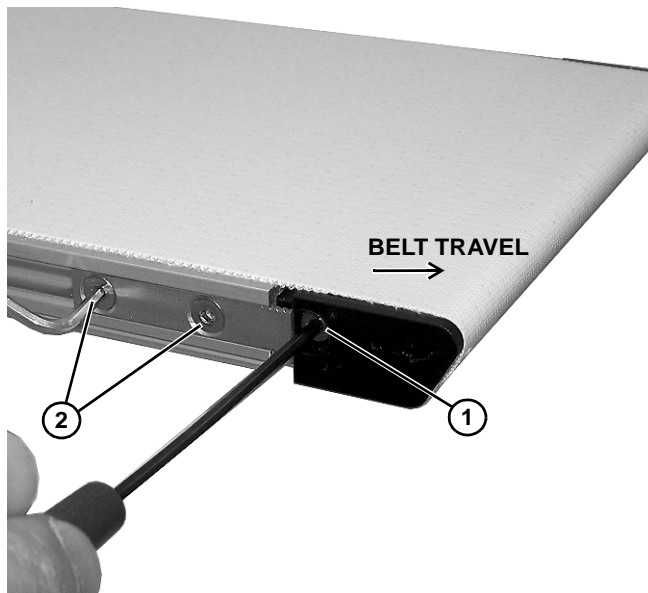

Figure 28
Non V-guided belt conveyors are equipped with a belt tracking cam (Figure 28, item 1) for belt tracking adjustment.
1. With conveyor running, insert 2.5 mm hex wrench into tracking cam (Figure 28, item 1) on the side toward which the belt is tracking.
2. Loosen head plate fastening screws (Figure 28, item 2).
3. Rotate tracking cam (Figure 28, item 1) in small increments until belt tracks in the center of conveyor.
4. While holding tracking cam (Figure 28, item 1), tighten head plate fastening screws (Figure 28, item 2) to 12 in-lb (1.4 Nm).